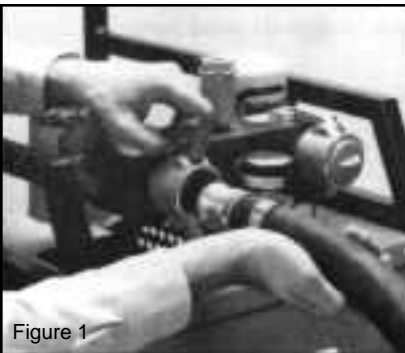

Figure 1
- a) Attach the V60 extension hose to the pump's manifold. If extending only one pod, connect the V60 hose to the manifold Kamlok coupler that is not plugged. Lock the Kamlok male fitting on the hose to the Kamlok female coupler on the manifold (Figure 1).